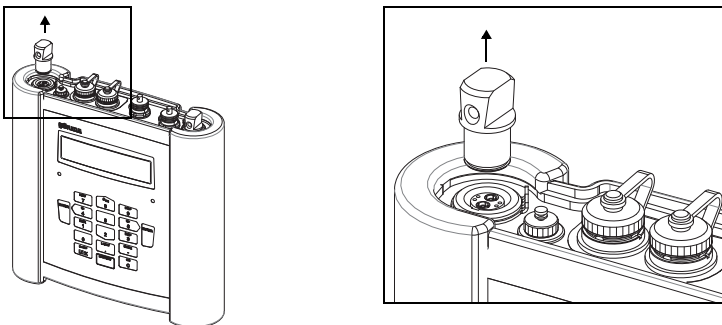

Fig. 7.6: Removal of the blind plug (FLUXUS F608\*\*-A2)
- Remove the blind plug (see Fig. 7.6).